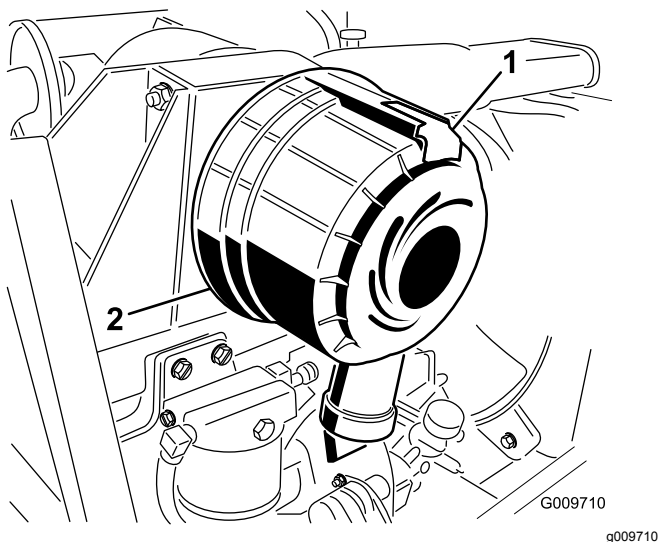

Figure 30
1. Pull the latch outward and rotate the air cleaner cover counterclockwise (Figure 30).